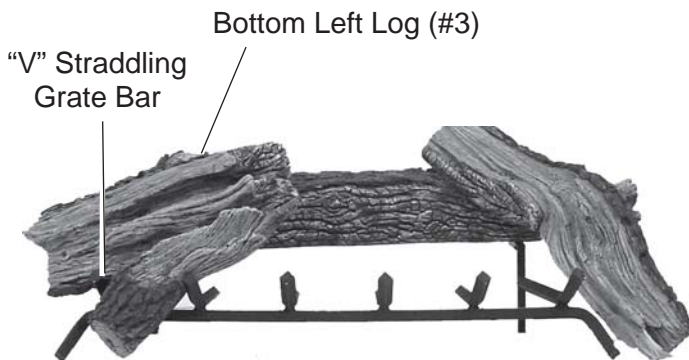

Figure 140 - Straddling “V” of Bottom Left Log (#3) on Grate Bar
4. Place Bottom Left Log #3 on grate. The “V” of the log should straddle the end grate bar. See *Figure 140*.